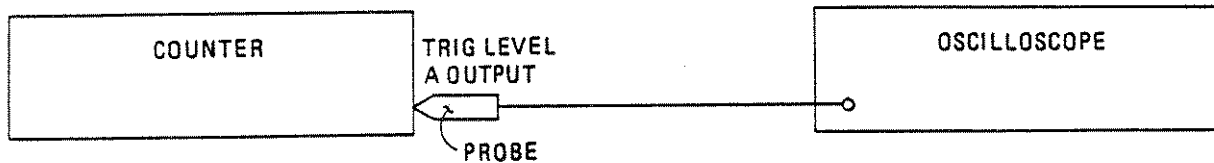

**Fig. 6.16 Trigger Level Waveform**
- (2) Select the DC coupling of the oscilloscope input.
- (3) Set the oscilloscope to monitor a waveform of approximately 12V peak-to-peak with a frequency of 2 Hz.
- (4) Select the CHECK function.
- (5) Press the key sequence
- (6) Verify that Input A and B TRIG LEDs are flashing, and that the displayed waveform is as shown in Fig. 6.16.